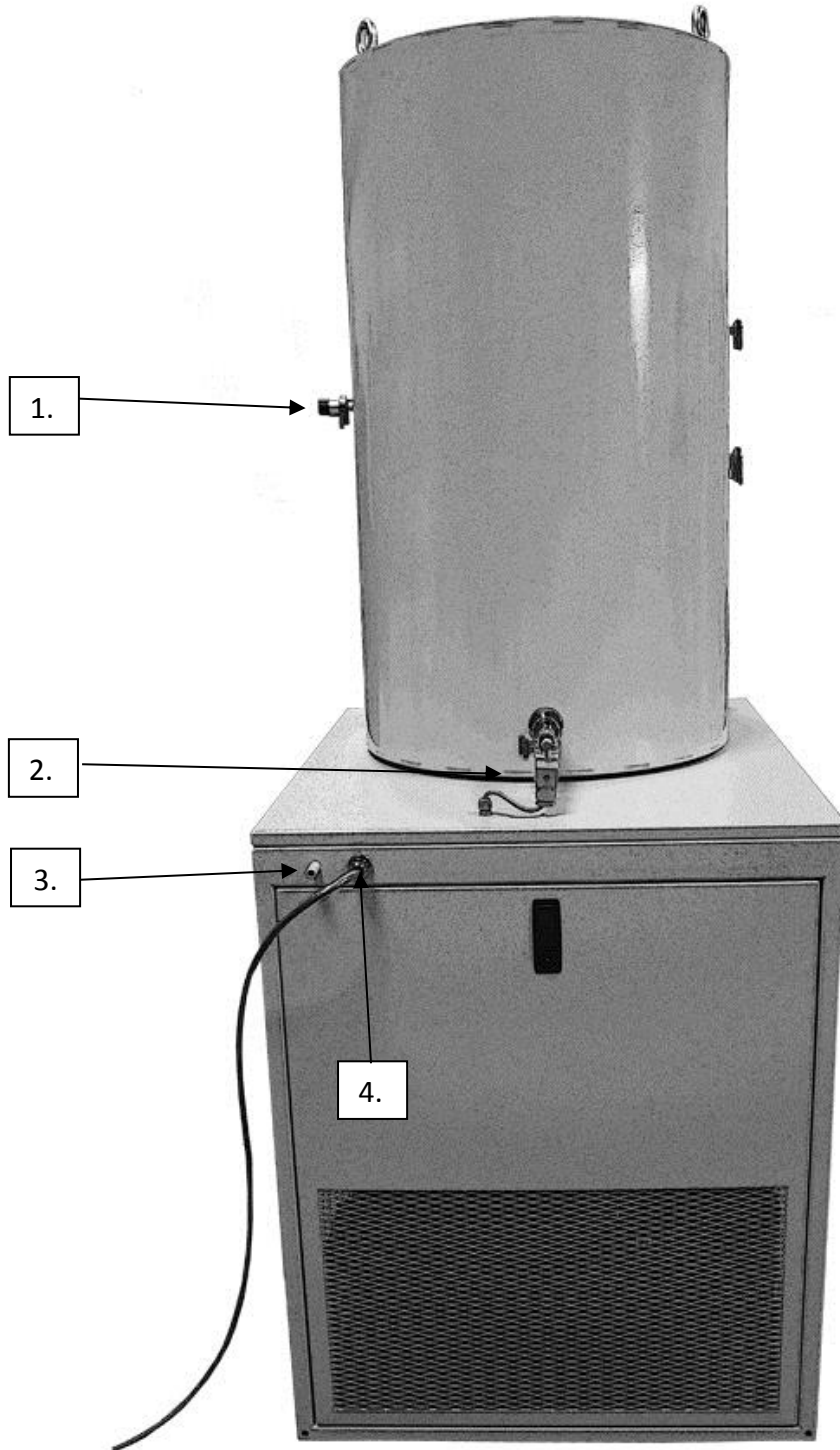

Figure 2 – LyoDry Midi Pro Rear view.
1. Switch on the electrical supply and then turn the power switch (item 1, figure 2) to the '1' (on) position.